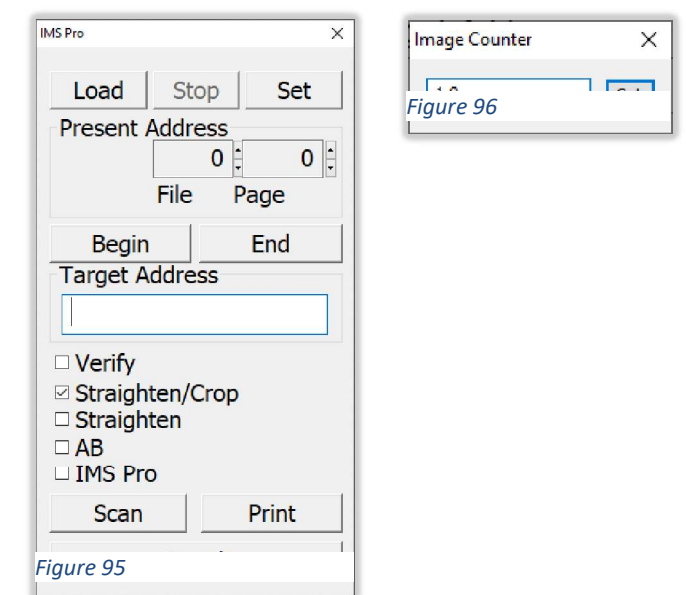

Figure 94
5. If the film is not perfectly horizontal, click the *Calibrate* button. The cursor changes to a +. On the top edge of the film, click once on the left and once on the right. The corresponding red line will be used to straighten the sensor. *Figure 94*